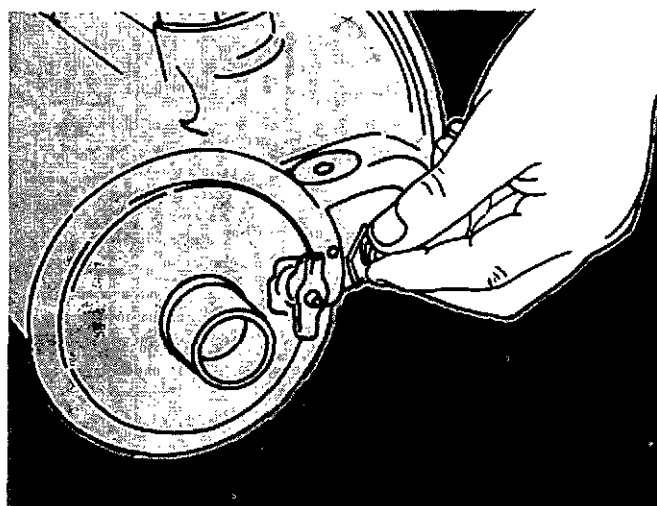

Fig. 7-37. Install The Retaining Plate.
11. Install the retaining plate with a retaining screw, lockwasher and plain washer, Fig. 7-37. Tighten the screw to 5 to 6 ft.-lbs. [6 to 8 N•m] torque.